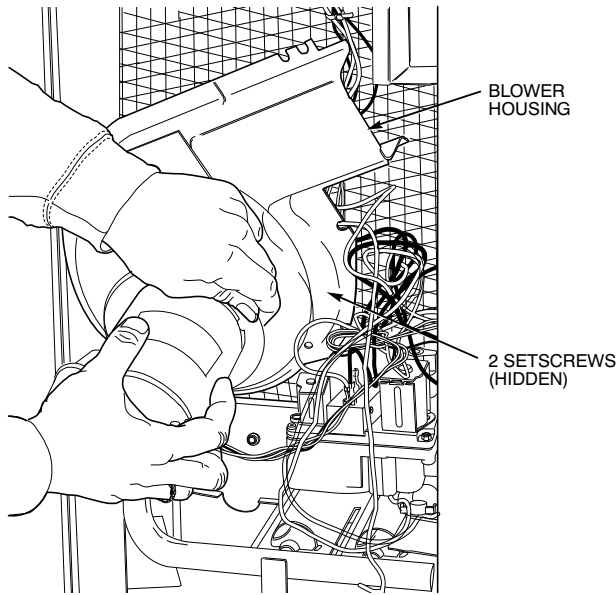

Fig. 19 – Removal of Motor and Blower Wheel
3. Slide the assembly out of the unit. (See Fig. 19). Clean the blower wheel. If additional cleaning is required, continue with Steps 4 and 5.